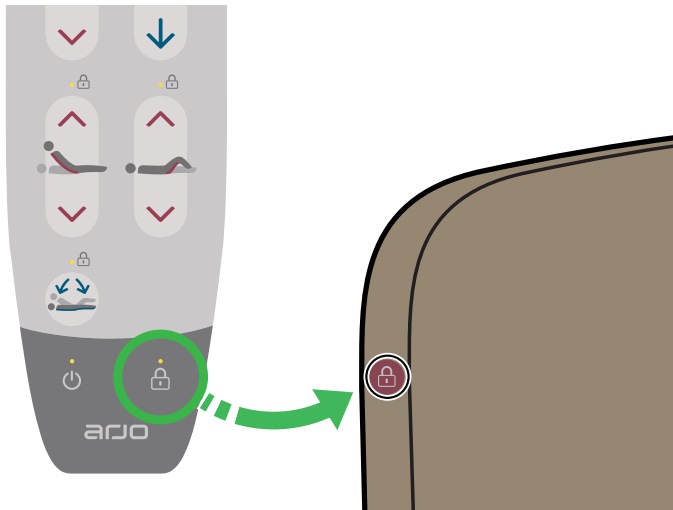
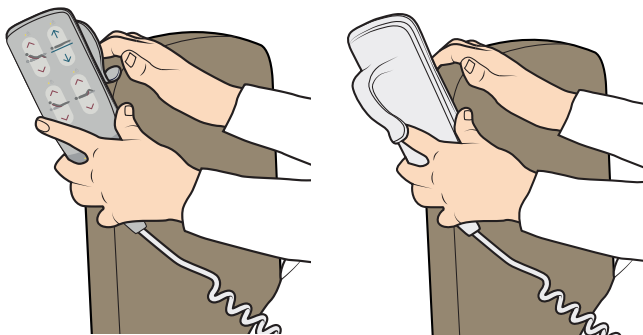

Figure 41
Figure 42
1. Hold the hand control sensor against the magnet for 5 to 10 seconds. See Figure 41. Both the front and the back of the hand control are possible to use. See Figure 42. The lockout indicator flashes and there is a beep.